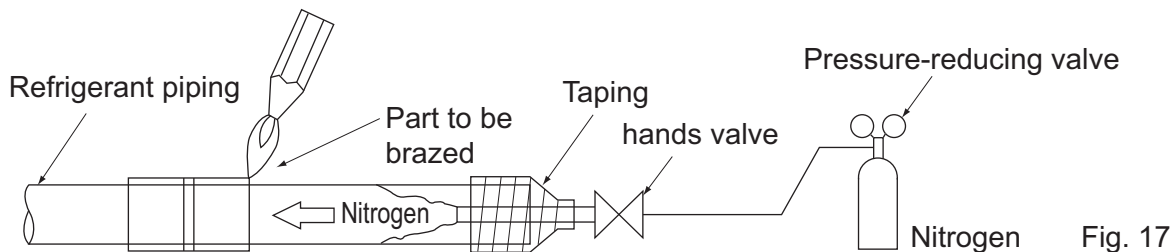

Fig. 17
2. When brazing after having nitrogen flow through the pipe and substituting nitrogen for air, it is appropriate to set the nitrogen pressure to about 0.02MPa with a pressure reducing valve. **(Refer to Fig. 17)**